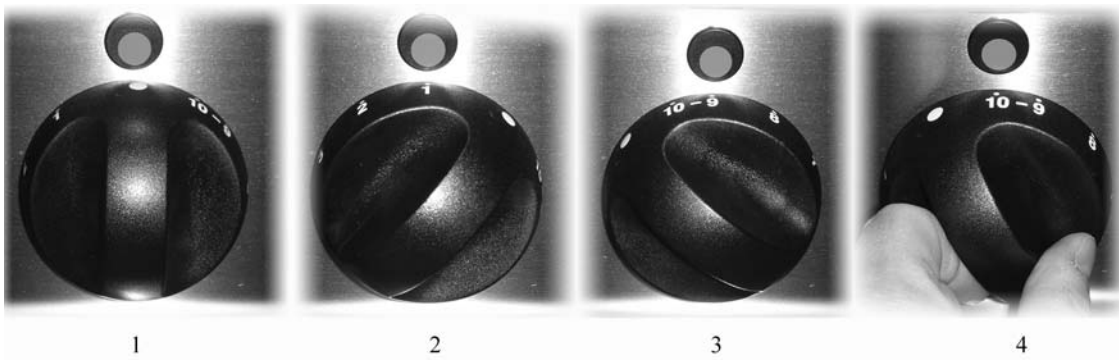

Fig. 3
By turning the knob further, for a few seconds, until it reaches (pos. 4 in Fig. 3), the selected zone reaches maximum heat thanks to the second heating element switching on.